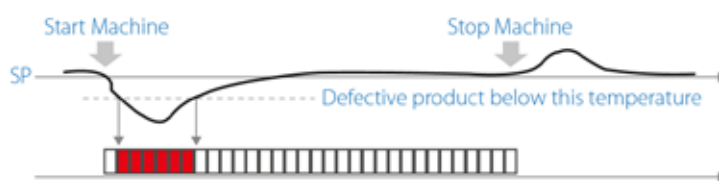

Figure 2. bad seal at startup
During operation, at each seal, the film absorbs heat from the seal-jaw causing it to drop in temperature. Before the next seal can be done, the seal-jaw needs to be at the right temperature again. Omron's 2-PID algorithm and auto tuning (AT) is fully developed to recover fast when temperature drops after each seal. Control is normally good when the machine is in production stage, but what when the production needs to start or stop? When moving from the idle stage to production stage, the balance in the PID control loop is disturbed heavily. The big drop in temperature at startup results often in a few or even many bad packages (fig.2). When the machine is paused the Seal jaw temperature is rising unnecessary high.